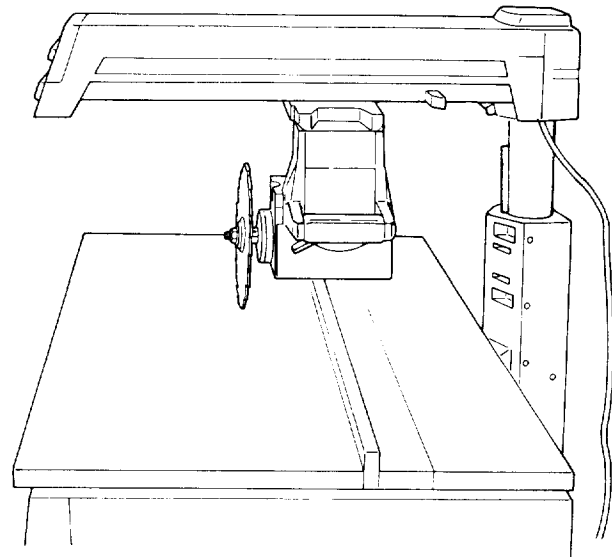

Fig. 113 - Out-rip Position
1. Unlock the *swivel lock* and turn the *motor* to the out-rip position with the *motor* between the *blade* and *fence*. (Figure 113)